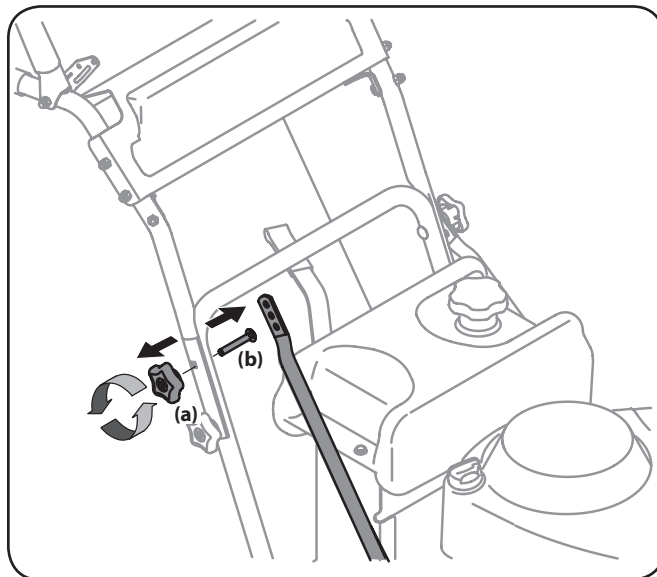

Figure 6-7
1. Remove the upper star knob (a) and carriage screw (b) on the right side of the handle and the left side of the handle. See Figure 6-7.